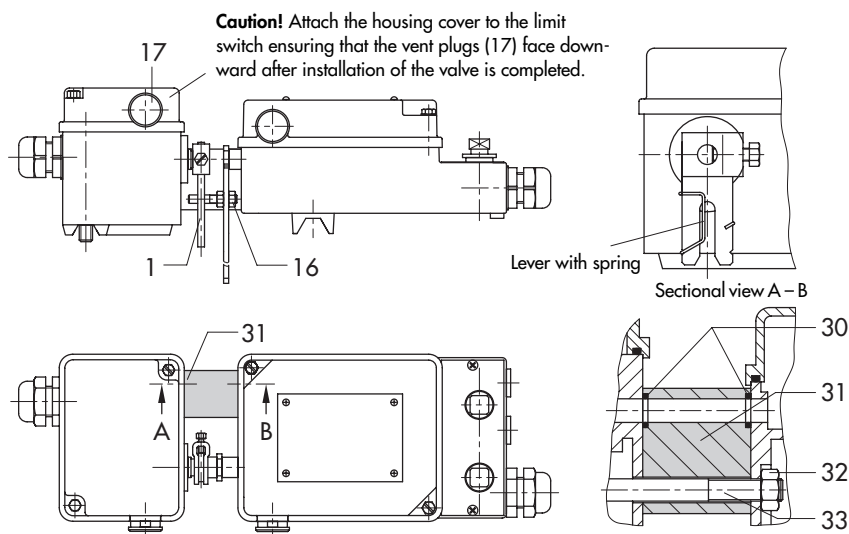

Fig. 4 · Attachment using an intermediate piece, e.g. to a Type 4765 or Type 4763 Positioner
For attachment of the limit switch to the Types 4763 or 4765 Positioners according to Fig. 4, a short lever (1) and an intermediate piece (31) are required as accessories (order no. 1400-6710).
1. Insert one O-ring (30) each into the left and the right side of the intermediate piece (31).
2. Push the two fillister head screws (33) through the limit switch and intermediate piece, and insert them into the positioner.
3. Fasten the two fillister head screws (33) in the positioner housing using the